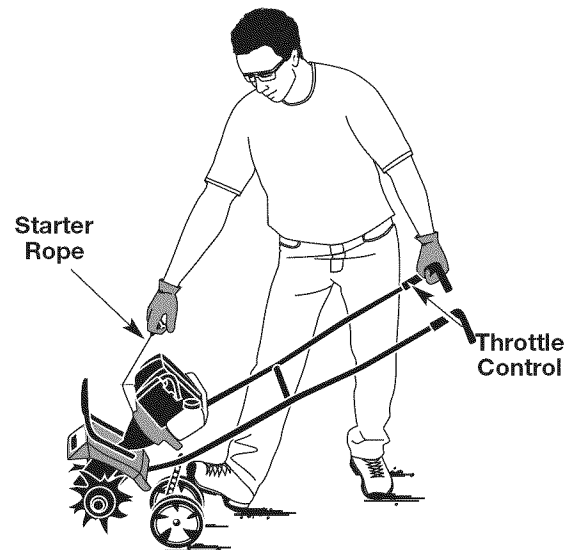

Fig. 12
**WARNING:** Avoid accidental starting. Make sure you are in the starting position when pulling the starter rope (Fig. 12). To avoid serious injury, the operator and unit must be in a stable position while starting.
6. Hold the throttle and handlebar with one hand and grab the starter rope with your other hand. Use your foot to hold down the mini tiller (Fig. 12).